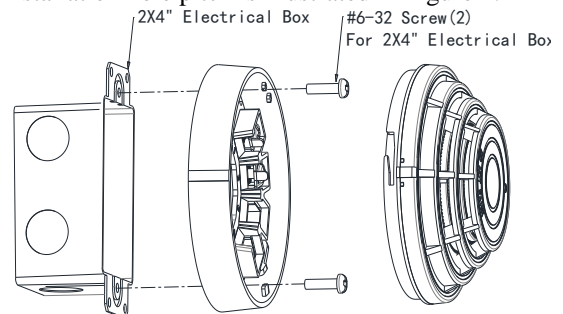

Figure 1. FW500 Base Installation
1. Mount the FW500 base onto a 2x4" electrical box using the screws provided, see Figure 1. The installation hole pitch is illustrated in Figure 2.